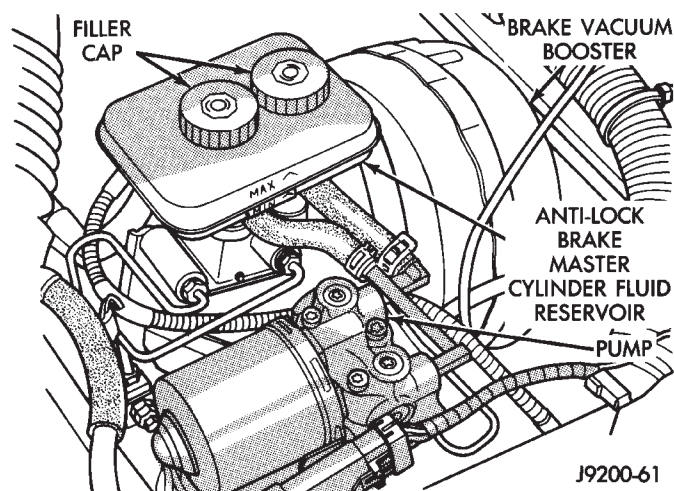

Fig. 8 Reservoir Fluid Level—Anti-Lock Brake System
(3) The brake fluid level should be no lower than the MIN arrow indicator on the side of the reservoir (Fig. 8). If not, add brake fluid as necessary. Raise the fluid level to the MAX arrow indicator only. Do not over-fill the reservoir.
(4) Turn the ignition switch OFF.